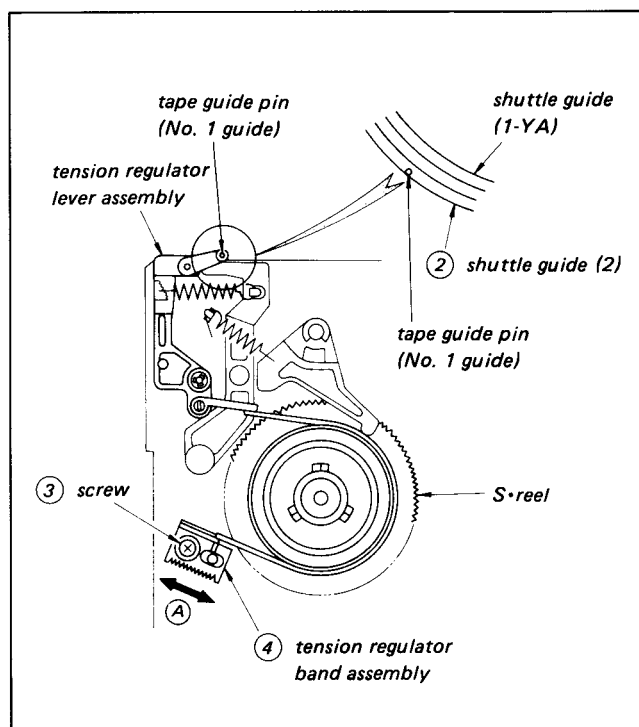

Fig. 3-32. Tension Regulator Lever Position Adjustment
- 2) Loosen the screw ③ and adjust by moving the tension regulator band assembly ④ in the direction of the arrow (A) until the tape guide pin (No. 1 guide) of the tension regulator lever assembly ① is positioned inside the outer circumference of the shuttle guide (2) ② as shown in Fig. 3-32.
- 3) After making the adjustment, tighten the screw ③ carefully in order not to move the tension regulator band assembly ④.